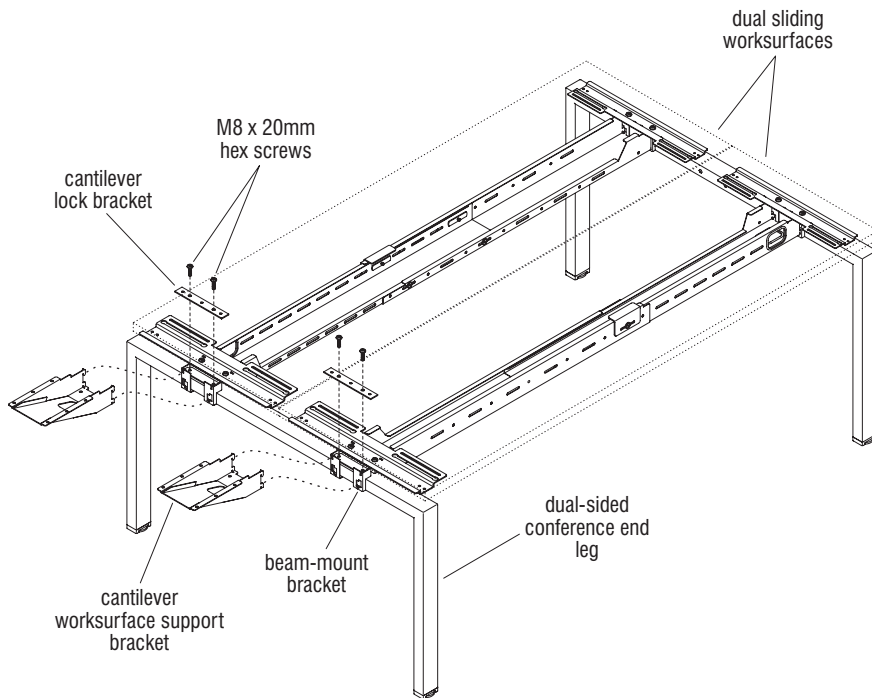

Figure 5 - Conference End Dual-Sided Worksurfaces (sliding shown)
Important: This section includes configurations with cantilever attachment to "fixed" worksurfaces. Conference end installations adjacent to "sliding" dual worksurfaces require a different installation method. See page 89, Figures 5 & 6.
1. At the two beam mount brackets of the dual-sided conference end leg, install two cantilever worksurface brackets into the beam-mount bracket slots as illustrated. Using a weighted hard-rubber mallet, tap down on the vertical walls of each cantilever until it bottoms out and is seated properly. Next, secure the cantilevers in place using cantilever lock brackets and M8 x 20mm hex-drive screws tightened properly (Figure 5).